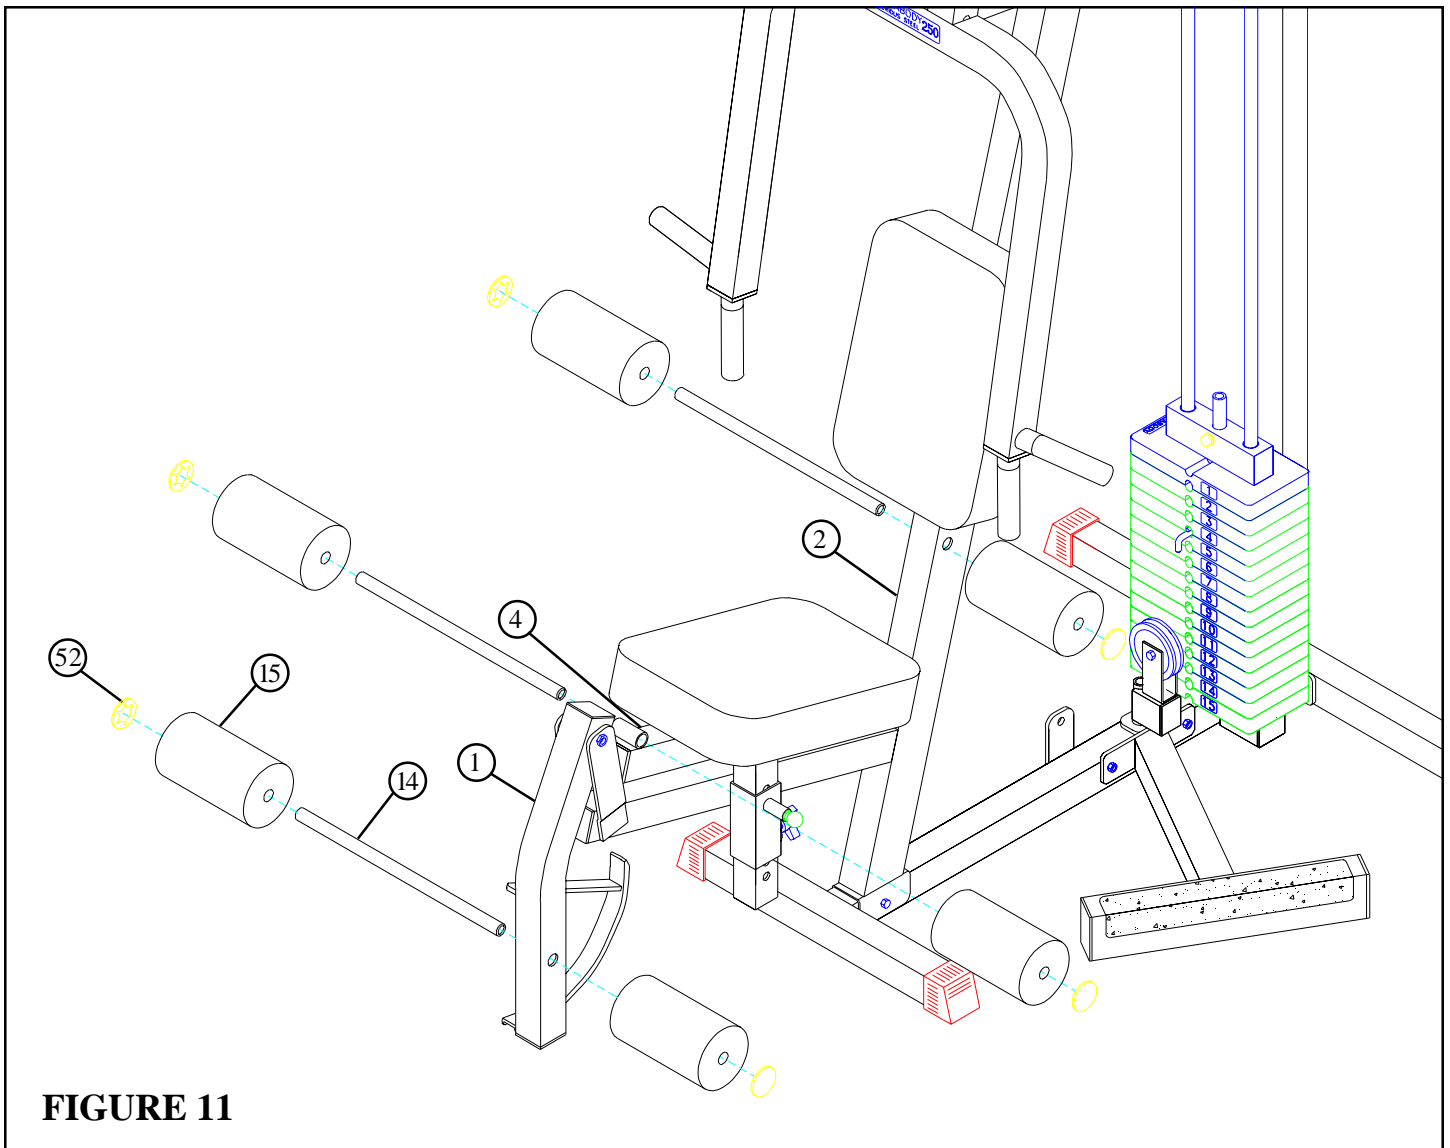

FIGURE 11
- Attach two 4 X 7" ROLLER PADS (15) to the FRONT UPRIGHT (2) using one 3/4 X 16" TUBE (14) and two 3/4" STARLOCK COLLARS (52) as shown in FIGURE 11.
- Attach two 4 X 7" ROLLER PADS (15) to the PRESS SEAT (4) using one 3/4 X 16" TUBE (14) and two 3/4" STARLOCK COLLARS (52) as shown in FIGURE 11.
- Attach two 4 X 7" ROLLER PADS (15) to the LEG CURL EXT (1) using one 3/4 X 16" TUBE (14) and two 3/4" STARLOCK COLLARS (52) as shown in FIGURE 11.